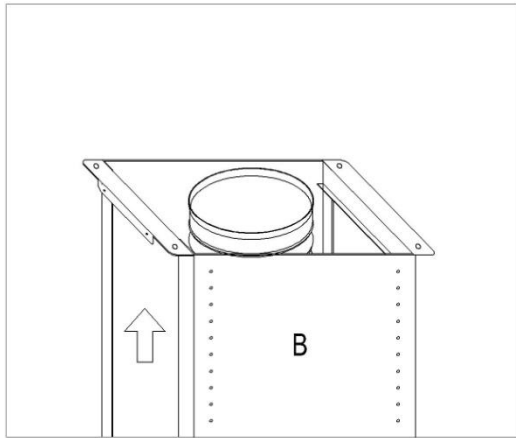

Fig. 6
- Suction **version**: fix the flexible pipe to the prepared air evacuation hole (Fig.6).